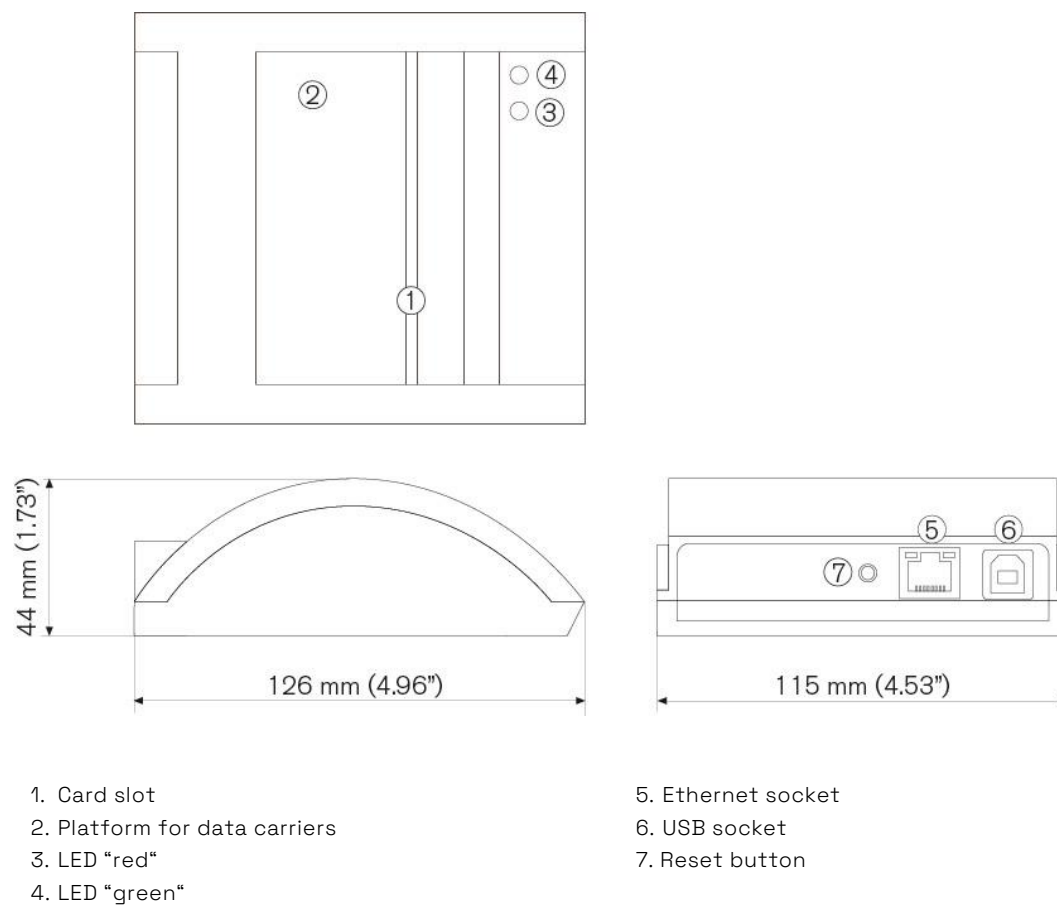
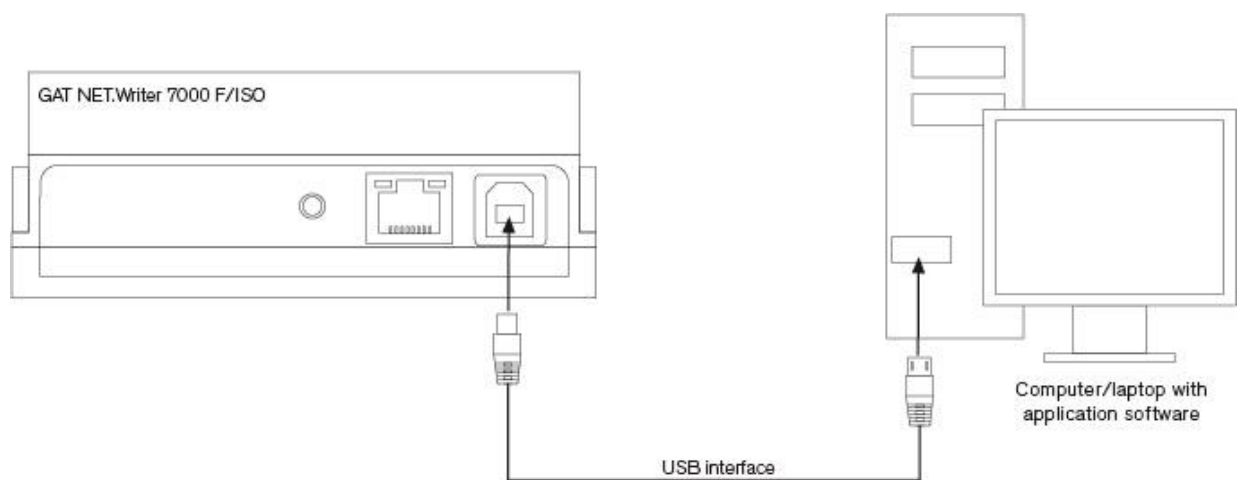
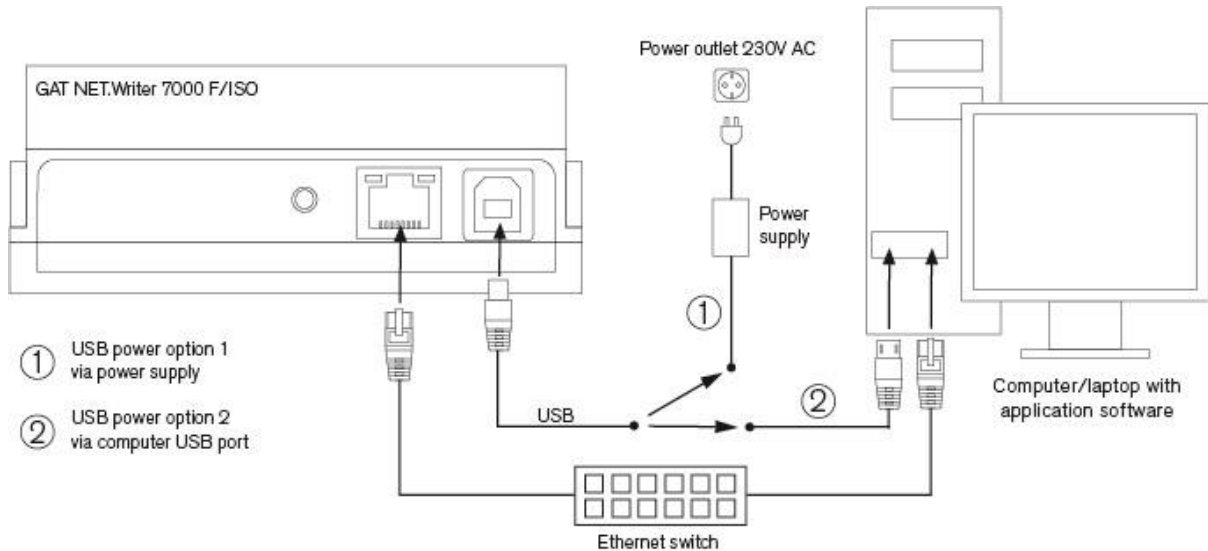

Fig. 2.3 – Dimensions of the GAT NET.Writer 7000 F/ISO (all measurements in mm)
Fig. 3.1 – USB connection
Fig. 3.2 – Ethernet connection
The dimensions and main components of the GAT NET.Writer 7000 F/ISO are shown in Fig. 2.3 below.
A USB type 'B' connection is provided at the rear of the GAT NET.Writer 7000 F/ISO (6 in Fig. 2.3). A USB cable is connected from the USB type 'B' port on the device to the USB type 'A' port of a computer as shown in Fig. 3.1 .
An Ethernet connection port is provided at the rear of the GAT NET.Writer 7000 F/ISO (5 in Fig. 2.3). An Ethernet patch cable with an RJ45 plug is used to plug into this connection. The patch cable is then connected to the network, and computer(s) respectively, via an Ethernet switch as shown in Fig. 3.2 .
- ▶ Connect the power supply to the USB port of the GAT NET.Writer 7000 F/ISO. As shown in the following figure, the power supply can be provided via a separate power supply or via a USB interface on the PC (see Fig. 3.2).
Power for the GAT NET.Writer 7000 F/ISO is always supplied through the USB port (6 in Fig. 2.3), regardless of whether the device is using the USB or Ethernet interface for communication.
When the GAT NET.Writer 7000 F/ISO is using the USB interface for communication, power is supplied from the computer to the GAT NET.Writer 7000 F/ISO via the USB cable as shown in Fig. 3.1 An additional power supply is not required in this case.
1. Connect the USB cable from the GAT NET.Writer 7000 F/ISO to the power supply (option 1 in Fig. 3.2). Connect the power supply to a 230V AC power outlet. A 3m USB cable and power supply are included with the device.
2. Connect the USB cable from the GAT NET.Writer 7000 F/ISO to the USB port of a computer (option 2 in Fig. 3.2).